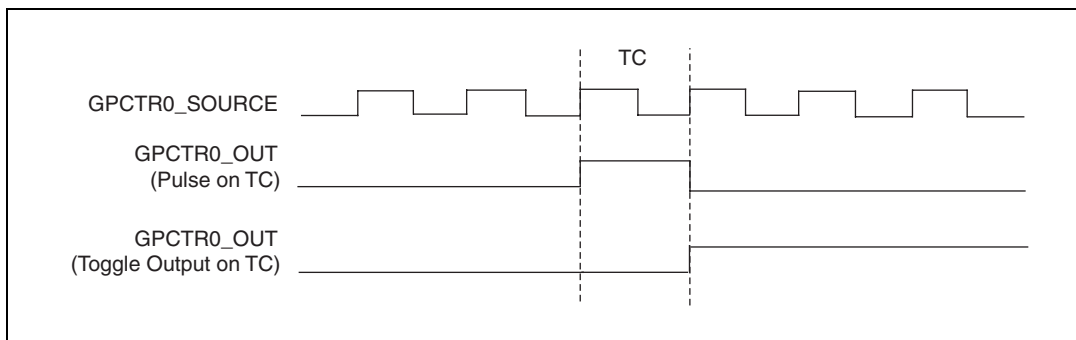

Figure 4-31. GPCTR0_OUT Signal Timing
This signal is available only as an output on the GPCTR0_OUT pin. The GPCTR0_OUT signal reflects the terminal count (TC) of general-purpose counter 0. You have two software-selectable output options—pulse on TC and toggle output polarity on TC. The output polarity is software-selectable for both options. This output is set to tri-state at startup. Figure 4-31 shows the timing of the GPCTR0_OUT signal.